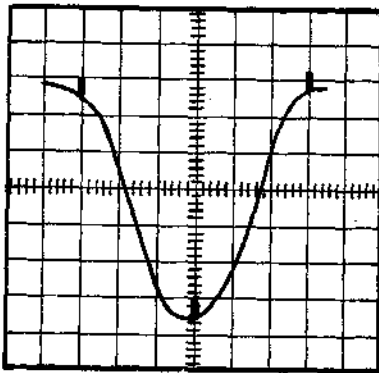

Fig. 17
3. Adjust the core of IFT. T102 so that the output is maximized and the waveform is symmetrical as shown in Fig. 17.